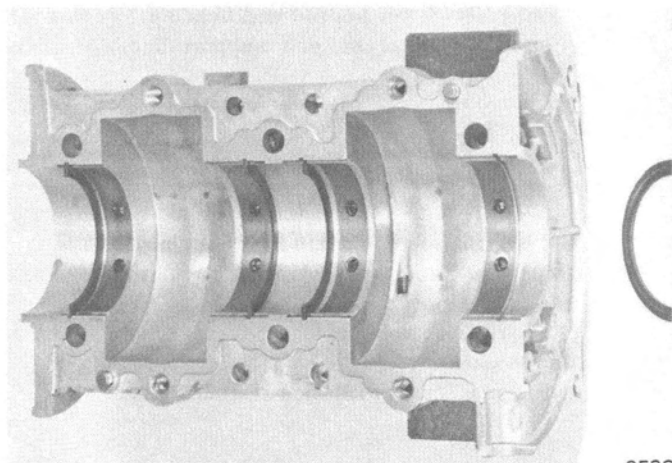

Figure 1. Bearing Retainer
2. Place bearing retainers in grooves of lower crankcase (smooth side toward bearing). (Figure 1)